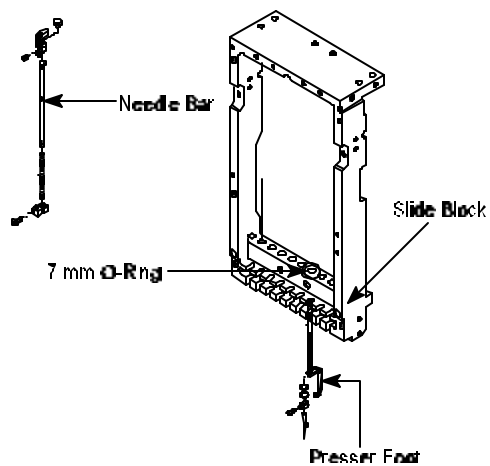

Figure 6
17. **Slide** Needle Bar through 7 mm O-ring positioned over hole on Slide Block. See Figure 6.
18. Continue **inserting** Needle Bar through Slide Block. See *Figure 6*.